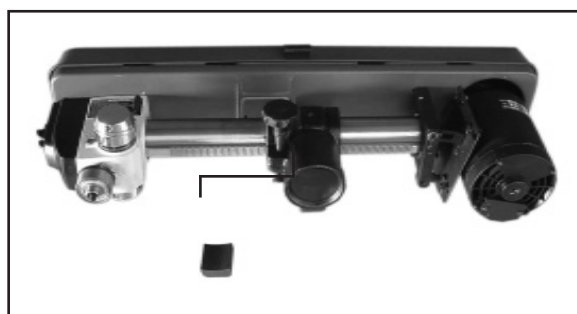

Figure 5
1. Place the locking shoe (part# 15B) in the recessed pocket of the head. Fig. 5.